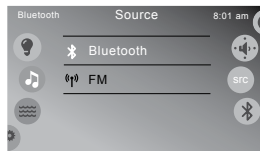

Figure 11.8a
1. Tap the music icon on the control panel screen then tap either the Bluetooth or SRC, Figure 11.8a, button to select the Bluetooth option.